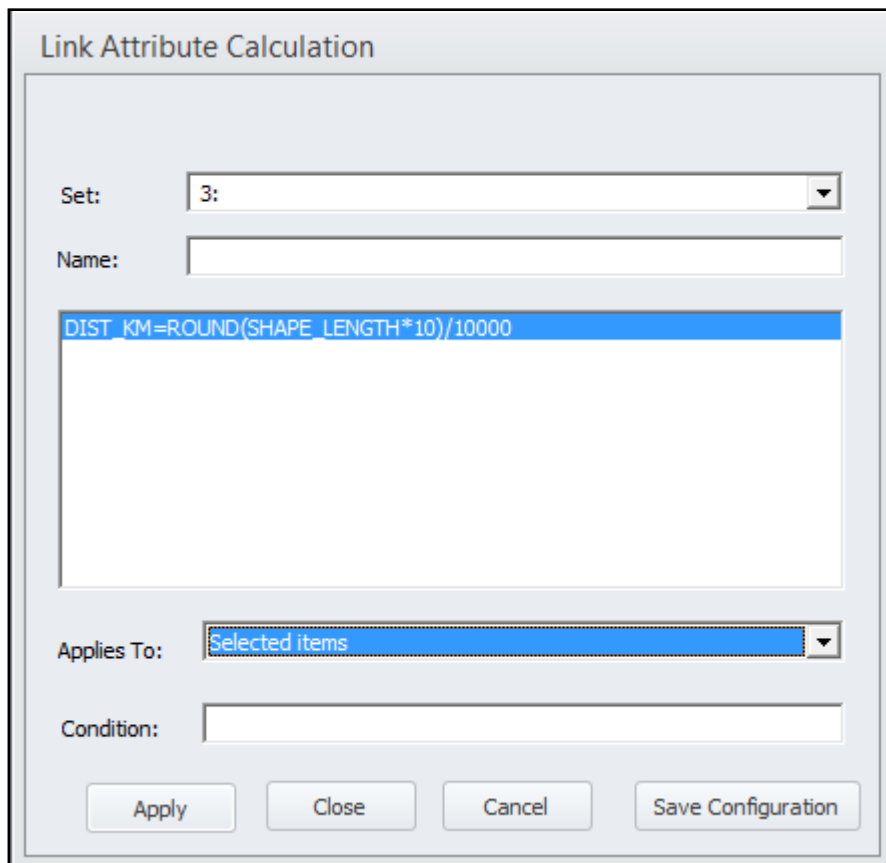

Figure 87 The Link Attribute Calculation window
- l) DIST_KM: update using the SHAPE_LENGTH value using Link -> Compute tool as displayed in Figure 87